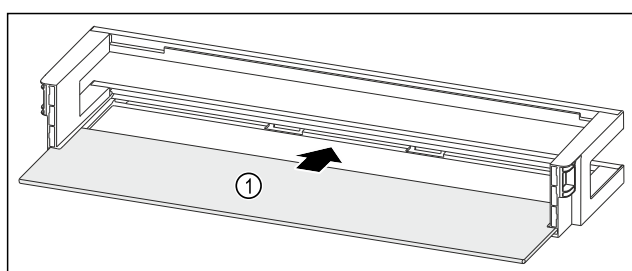

Fig. 150 Door rack with shelf
- Push the shelf Fig. 150 (1) into the side recesses.